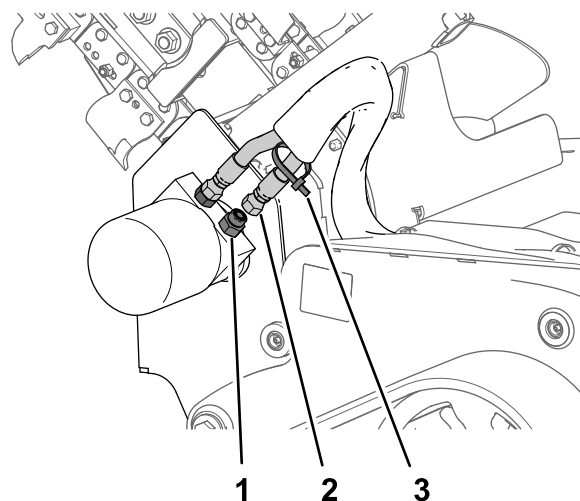

Figure 2
2. Wipe clean the hydraulic hoses and fittings at the hydraulic motor for the trencher drive (Figure 2).
3. Secure the cable tie to the rearmost hydraulic hose at the hydraulic motor for the trencher drive (Figure 2).